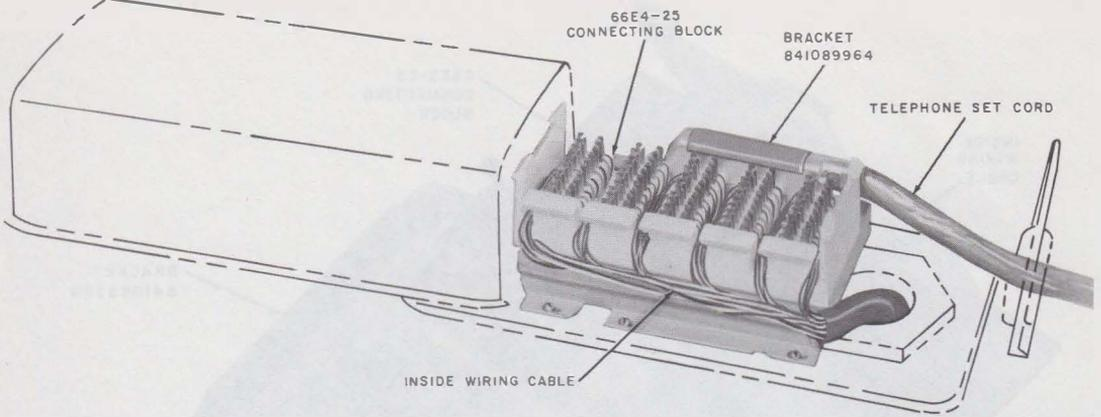

Fig. 4—66E4-25 Connecting Block Installed in Commercial Fitting
3.03 The 66E4-25 connecting block is designed for use with existing commercial underfloor or overfloor duct service fittings. Figure 4 shows its use with a commercial service fitting. If tapped